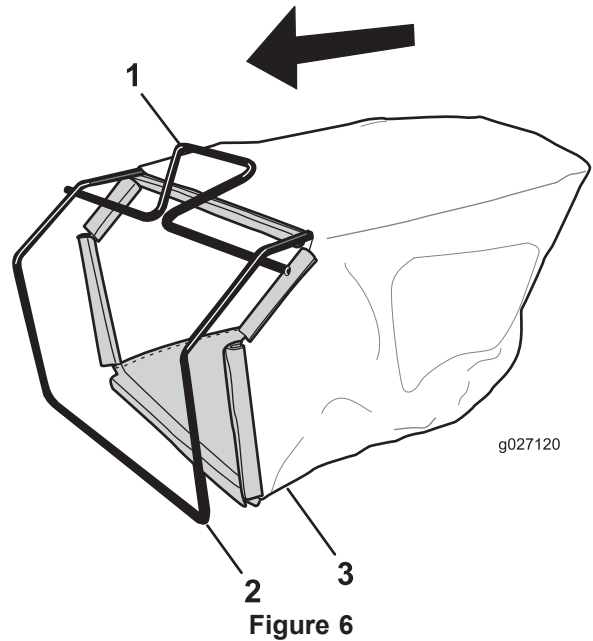

Figure 6
1. Slip the grass bag over the frame as shown in Figure 6.
**Note:** Do not slip the bag over the handle (Figure 6).